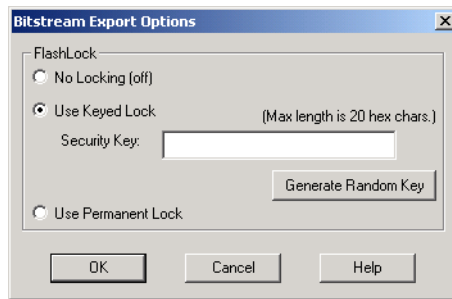

Figure 2-32. Bitstream Export Options Dialog Box
3. **Click *OK*.** This displays the Bitstream Export Options dialog box, as shown in Figure 2-32.